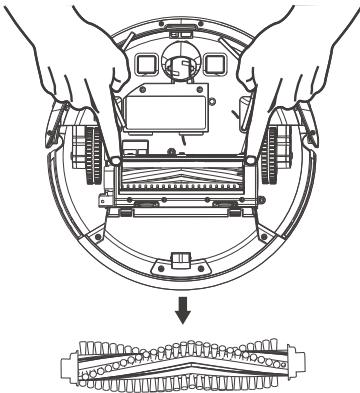

Figure 1
- Remove the bristle brush. Clean the bristle and the axle twice a week. (Figure 1)